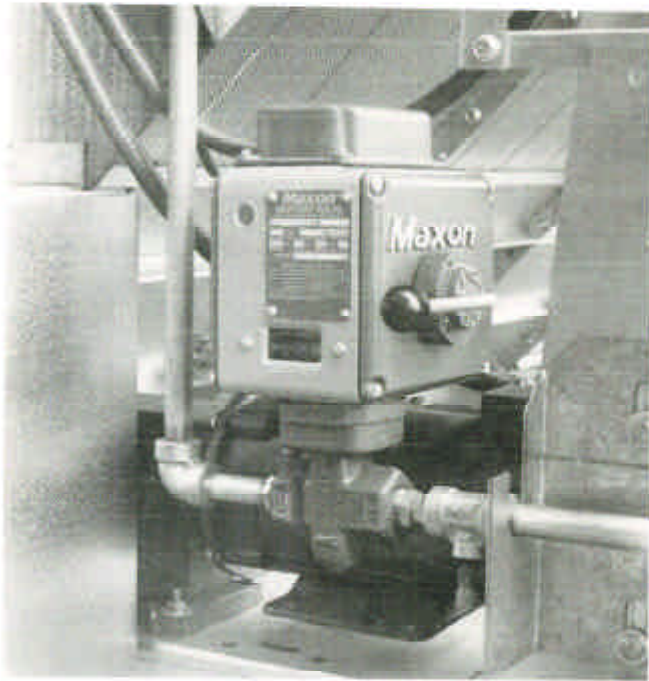

Figure 3
5. Open the main fuel supply valve at the tank. Turn on electric shut off valve to allow fuel flow to the dryer and inspect all gas lines and connections for possible leaks. (Figure 3)